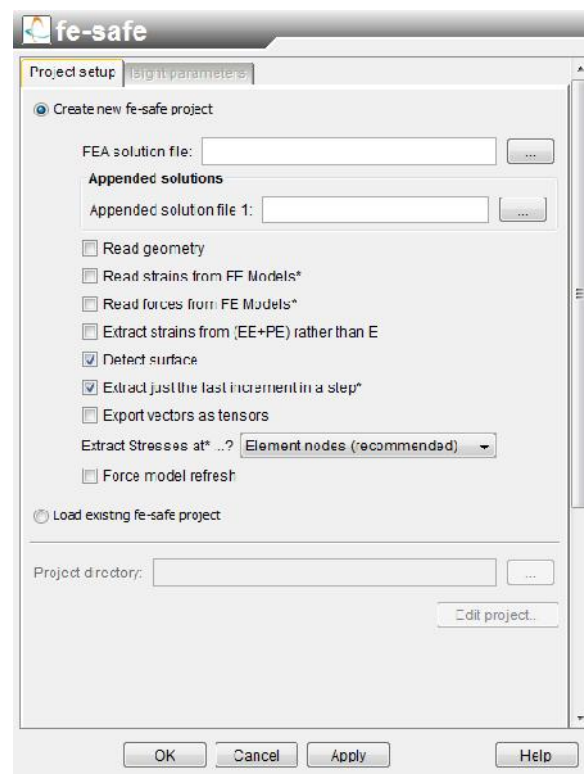

Figure 5-3: The *fe-safe* component in the simulation process flow
- 2) Double-click the *fe-safe* component to bring up the component editor as shown in Figure 5-3.